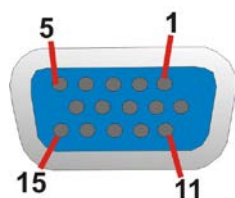

Figure 3-27: VGA Connector
- CN Pinouts:** See **Figure 3-27** and **Table 3-11**